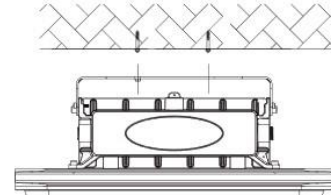

Figure 3
3. The holes on the bracket should be aligned with the expansion screws. (Figure 3)